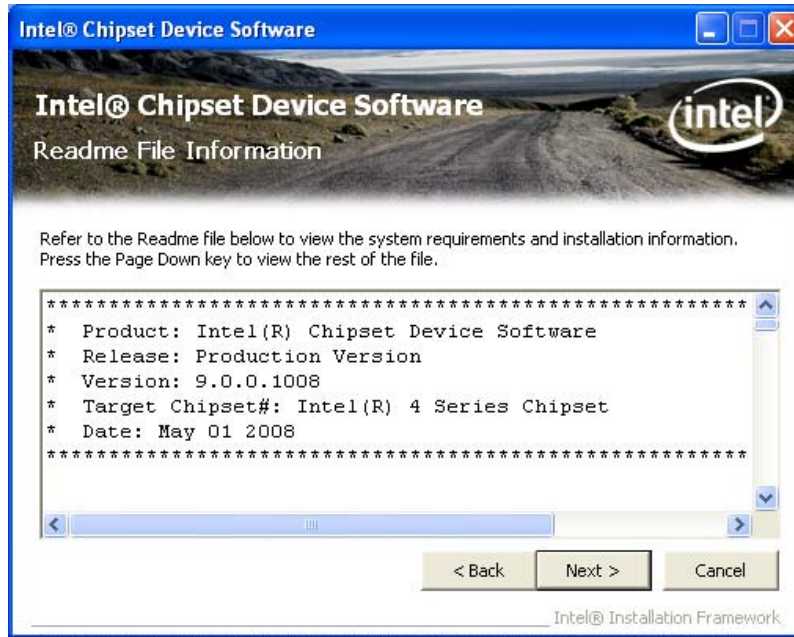

Figure 6-6: Chipset Driver Read Me File
Step 10: The **Read Me** file in **Figure 6-6** appears.